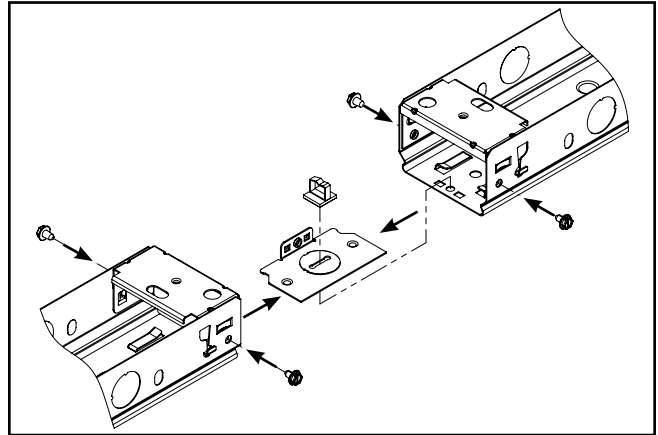

Figure 4.
3. Insert row aligner into channel. Insert wire holder if running a harness along the row of fixtures (Figure 4.).
4. Add screws on the side of channels (Figure 4.).